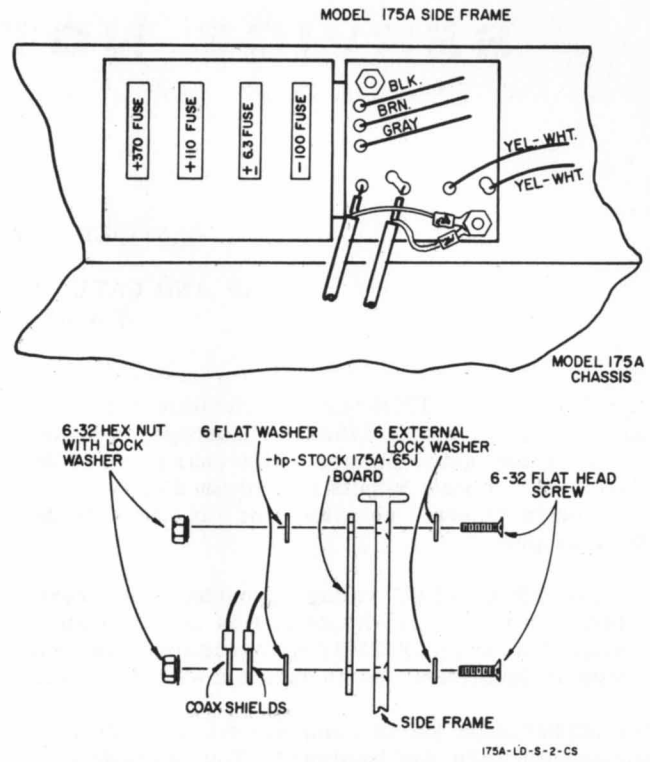

Figure 2. Mounting Position and Sequence of Etched Circuit Board, 175A-65J
3. Install the etched circuit board on left side frame adjacent to the low voltage power supply fuses (see figures 2 and 3). Align board holes with existing holes in side frame. Install board with hardware as shown.